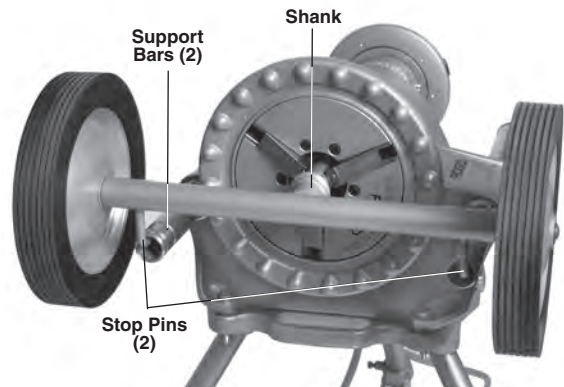

Figure 28 – Installing No. 32 Transporter
- Insert shank of No. 32 Transporter into 300 Power Drive front chuck; stop pins should be in ends of support bars. Securely tighten the chuck on the transporter shank (*Figure 28*).